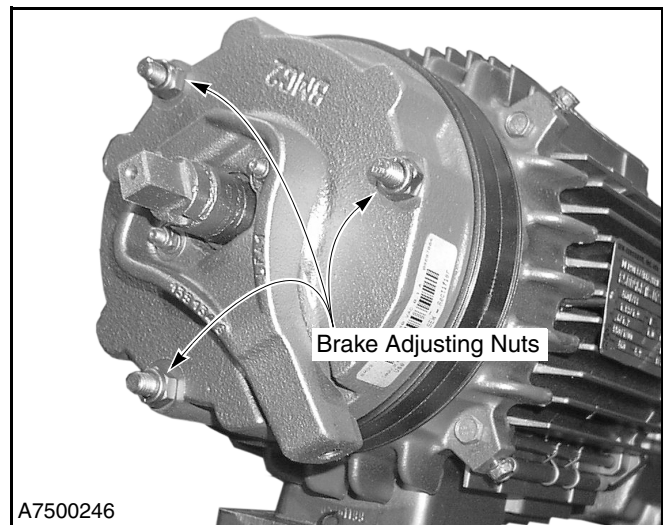

Figure 35
3. Securely tighten all brake adjusting nuts. (See Figure 35.)